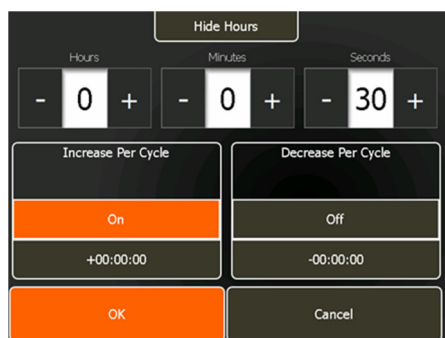

Fig. 4: Increments and Decrements.
2. Touch the step **Time** button. This will open the time entry screen (Fig. 4).